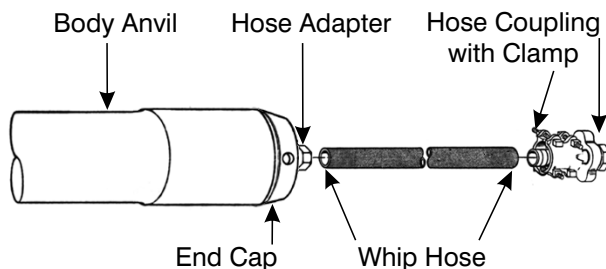

Figure 11-1. Whip Hose Disassembly
The Hose Coupling with Clamp (17) can be replaced in the field without disassembling the Hole-Hog itself. To remove and replace a Hose Coupling, refer to paragraphs 11.2 and 11.3. See Figure 11-1.
The Whip Hose Assembly (14) can be replaced in the field without disassembling the Hole-Hog itself. If only the hose is replaced, it must be separated from the Hose Coupling with Clamp (17). To remove and replace a Whip Hose Assembly (14), refer to paragraphs 11.2 and 11.4. See Figure 11-1.